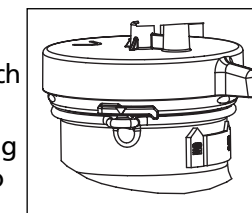

Figure 2
3. Remove cap assembly by rotating cap counterclockwise 1/4 turn to align arrow on cap with tab on tank (Figure 2). Pull cap off.